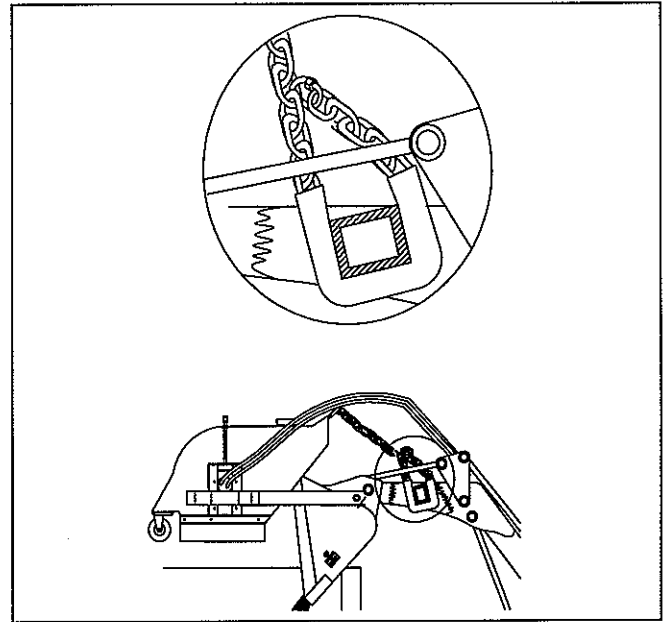

figure 7
2. Attach chains to a convenient location on the prime mover arms, such as a cross bar or step. Leave the chains loose with equal slack on both (figure 7). Do not entangle hydraulic hoses.
NOTE – Use 2 clevis pins, 2 rubber hoses and 2 quick links to attach the chain to the loader (figure 7).